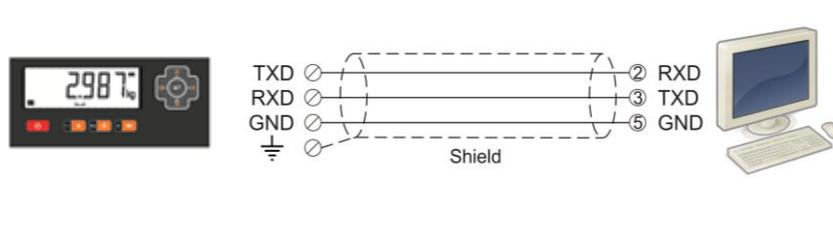

Figure 4.6 – 3 wire RS 232C connection with a PC or PLC
**3-wire connection to the peripherals:** RS 232C serial connection is done with three wires as indicated below in Figure 4.6 for bidirectional interfacing. Typical application is bidirectional BSI format interfacing with PC or PLC.